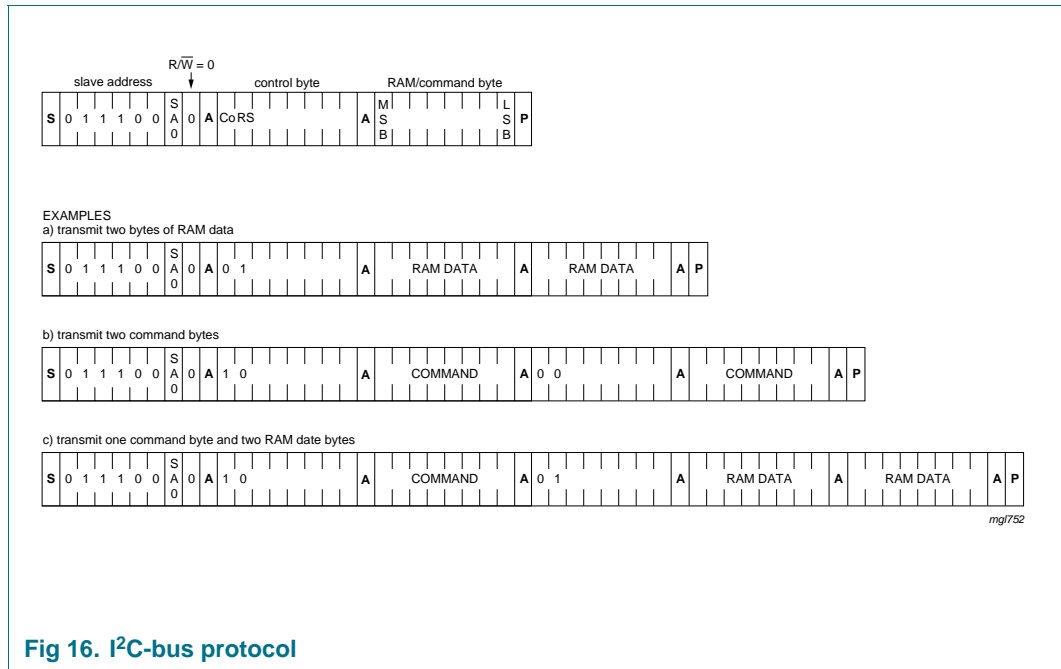

Fig 16. I2C-bus protocol
The I2C-bus protocol is shown in Figure 16. The sequence is initiated with a START condition (S) from the I2C-bus master which is followed by one of the two PCF8534A slave addresses available. All PCF8534As with the corresponding SA0 level acknowledge in parallel to the slave address, but all PCF8534As with the alternative SA0 level ignore the whole I2C-bus transfer.